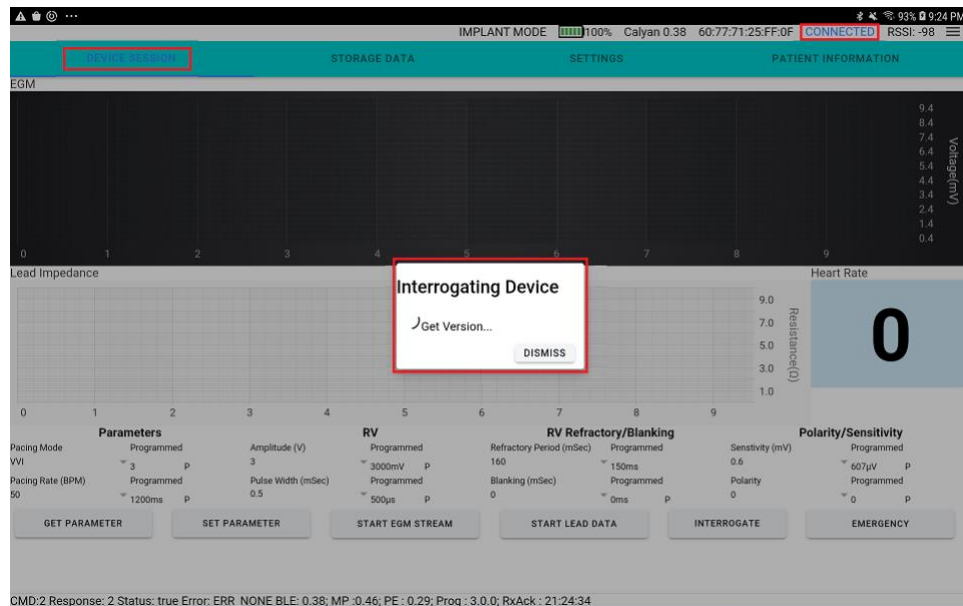

Figure 7: Interrogation
2. On successful connection the programmer will interrogate the Device and fetch all the settings. This process may take some time. Please do not dismiss the dialog box (Figure 7), unless the process takes longer than 3 minutes.